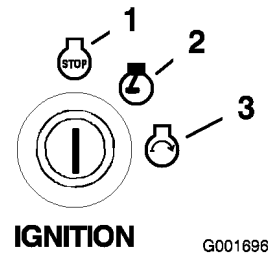

Figure 14
6. Turn the ignition key to Start (Figure 14). When the engine starts, release the key.
- Turn the ignition key to the off position and remove the key (Figure 14).